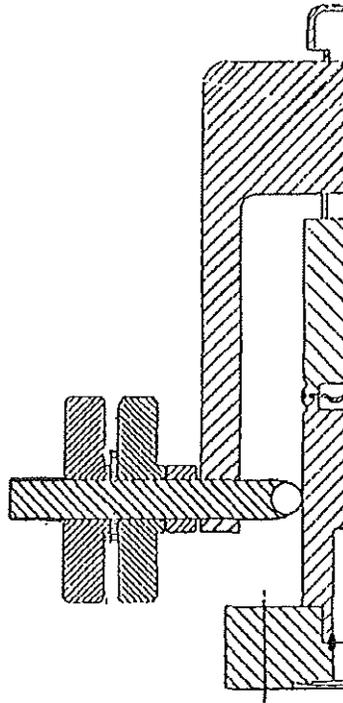

Fig.2
- ^ When the collar butts against the handle, the stop position is reached. See Figure 2 on the following page.